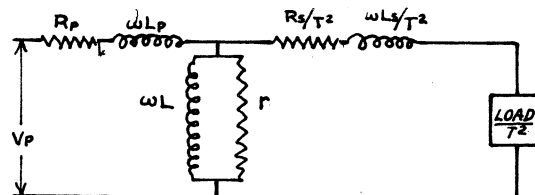

Fig. 4
5. This diagram can be further reduced to Fig. 4.